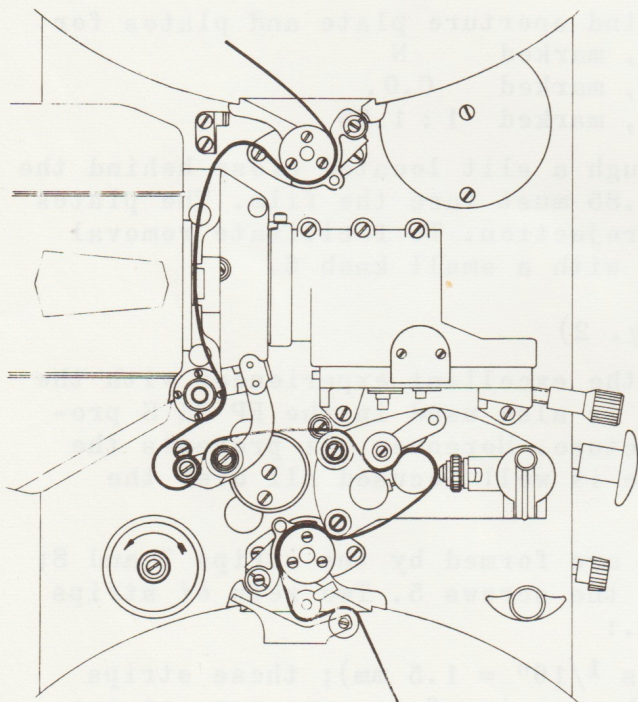

Fig. 3
- . in projectors without magnetic soundhead: as indicated in fig. 3;